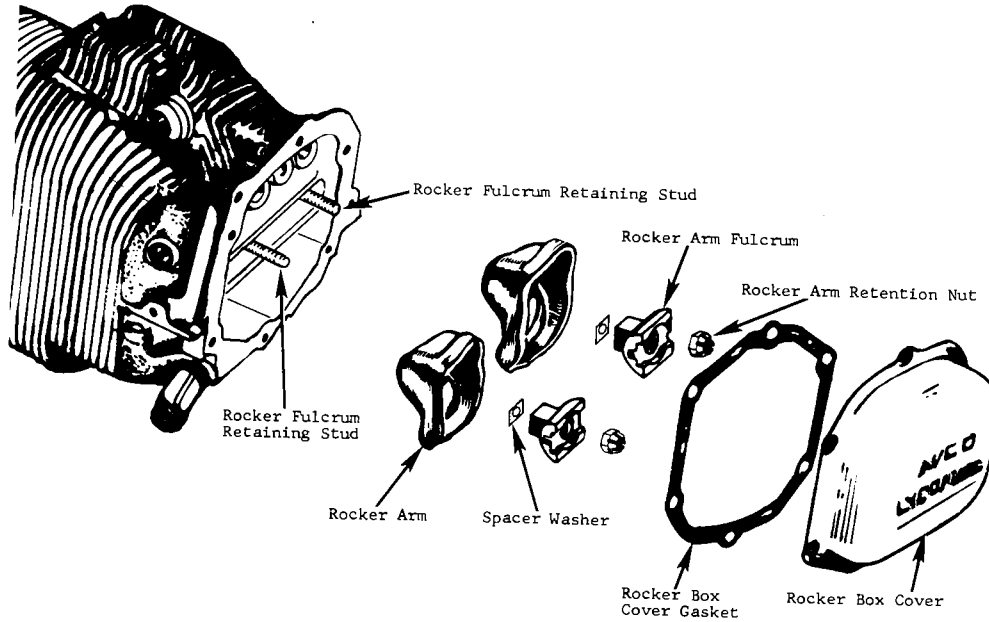

Figure 2. Cylinder Showing Valve Rocker Assembly
6. Reassemble push rods, spacer washers, rocker arm and fulcrum in their original locations as outlined in the caution note. See figure 2. Torque rocker arm retaining nut to 150 inch pounds. Prior to installing rocker box covers, rotate crankshaft and observe for proper functioning of valve gear.